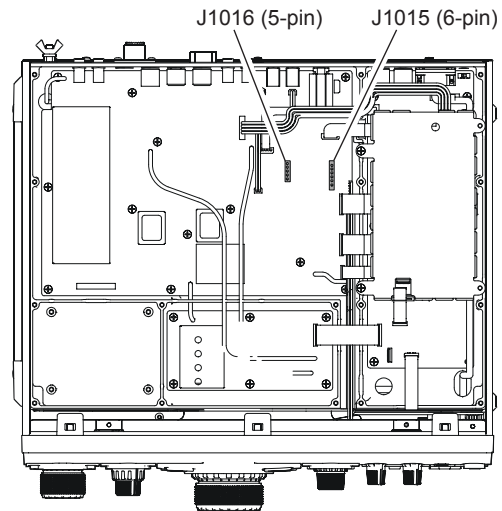

FIGURE 2
3. Refer to Figure 2 for the mounting location for the **DVS-6**.